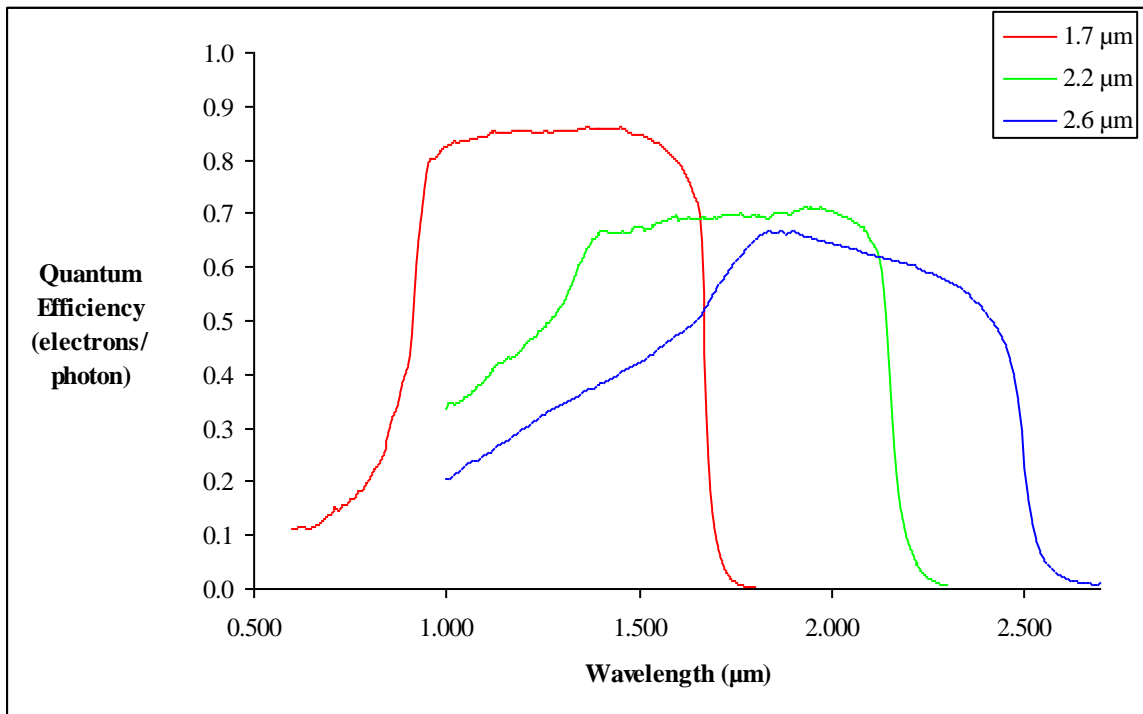

Figure 9. Typical QE for front-side illuminated SUI linear photodiode arrays.
The SUI LDH2/LDM cameras include a SUI LC series indium gallium arsenide (InGaAs) linear focal plane array. This device is a hybrid combination of a single InGaAs photodiode array with one or two silicon CMOS readout integrated circuits (ROICs). Typical quantum efficiency (QE) for SUI's 1.7 μm , 2.2 μm , and 2.6 μm cut-off front-side illuminated linear arrays is shown in Figure 9. The LDH2 and LDM cameras are only available with the 1.7 μm cut-off material.